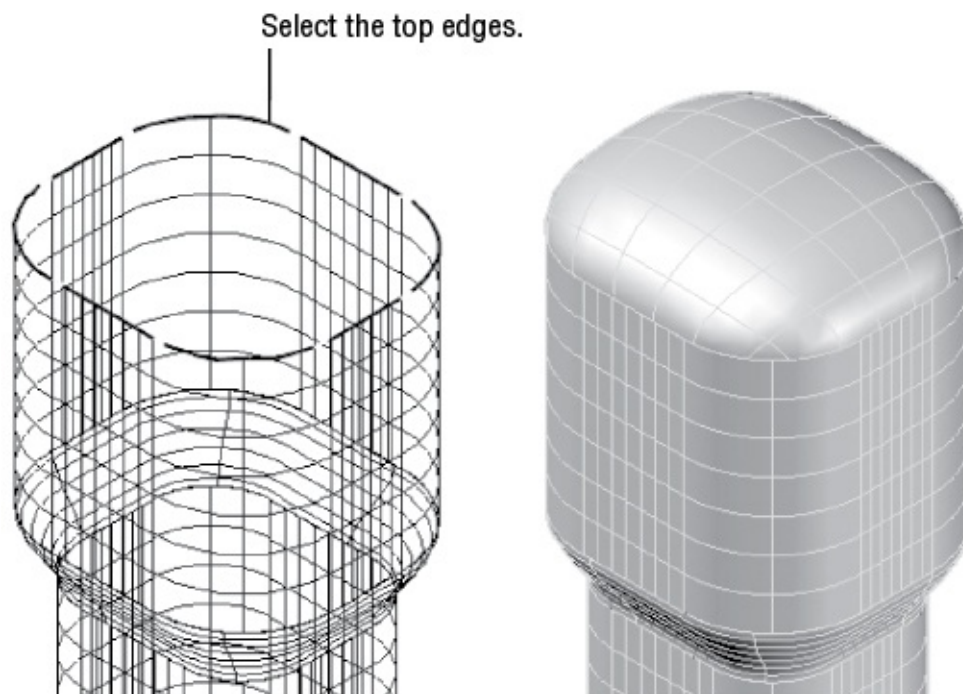

FIGURE 23.49 Adding the patch surface to the end of the model
1. Pan your view so that you can clearly see the top of the surface model, as shown in the left image in Figure 23.49.
3. Select the edges of the surface, as shown in Figure 23.49.
7. To get a better view of the surface, select the Shaded With Edges option from the Visual Styles drop-down list in the Visualize tab's Visual Styles panel. Your model should resemble the right side of Figure 23.49.